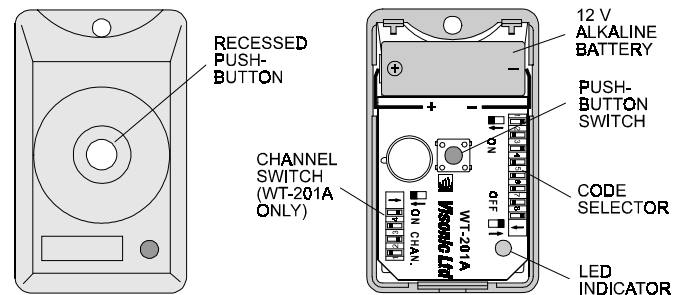

Figure 1. WT-201 with Cover Removed
- (2) Insert the 12-volt alkaline battery between the battery clips, so that the (+) and (-) markings on the battery coincide with the markings near each battery clip - see Figure 1. Check that the battery is held securely by the battery clips.
- (3) Gently press the pushbutton switch and verify that the LED lights, indicating good battery condition.
- (4) Carefully engage the ridges at the top end of the rear cover with the dents at the top end of the front cover. Gently press together the bottom ends of both covers, until they snap shut.